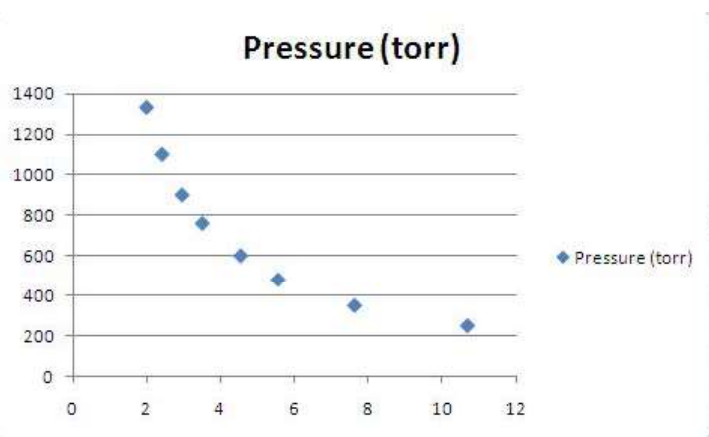

Figure 7.8: Typical Scatter plot generated. credit: author
4. After choosing the scatter plot option, you should be presented with a graph similar to that shown in Figure 7.8. To make the graph easier to work with, you may wish to enlarge the graph by clicking on the corners and dragging.